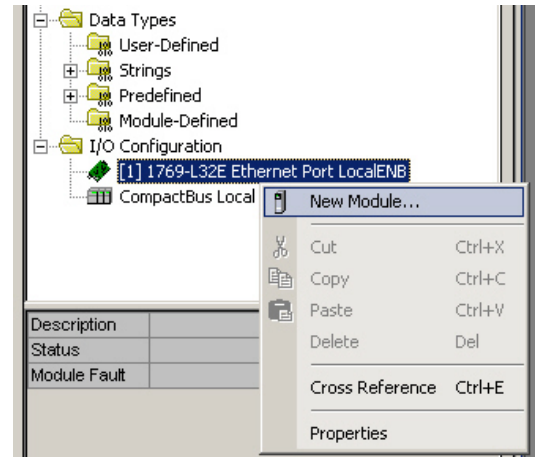

Figure 4.3 Adding an AnyNET-I/O Module
- 1) As shown in figure 4.3 on the right, the Ethernet port will be listed under the I/O Configuration tree. Right click on the port and then click on “New Module...” in the pop-up menu.